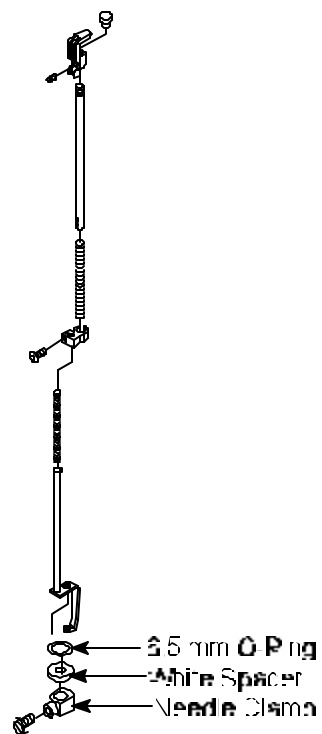

Figure 3
9. **Squeeze** and **hold** Needle Bar and Presser Foot together and **remove** needle clamp, white spacer and 6.5 mm O-ring. See *Figure 3*.